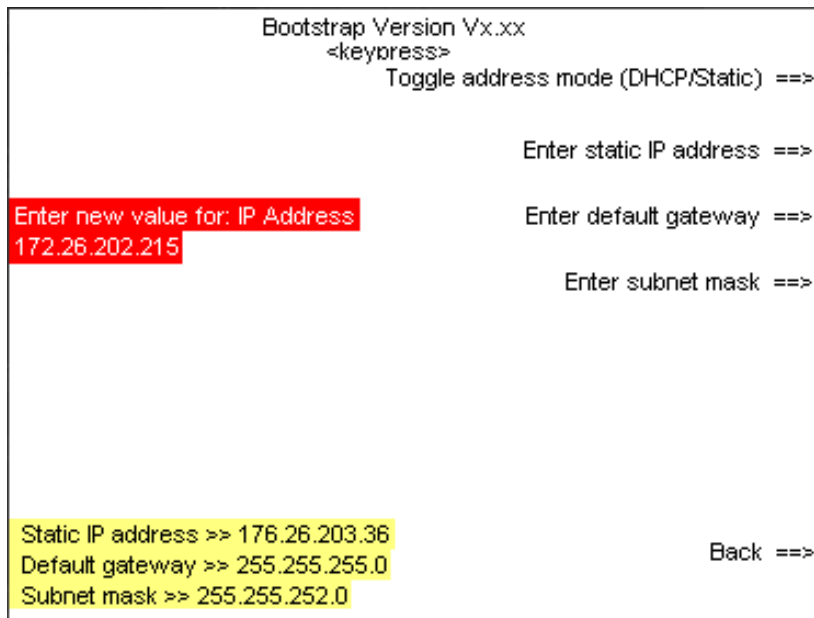

Figure 8-6. Ethernet Menu
5. Wait until the Ethernet menu is displayed, as shown in Figure 8-6.